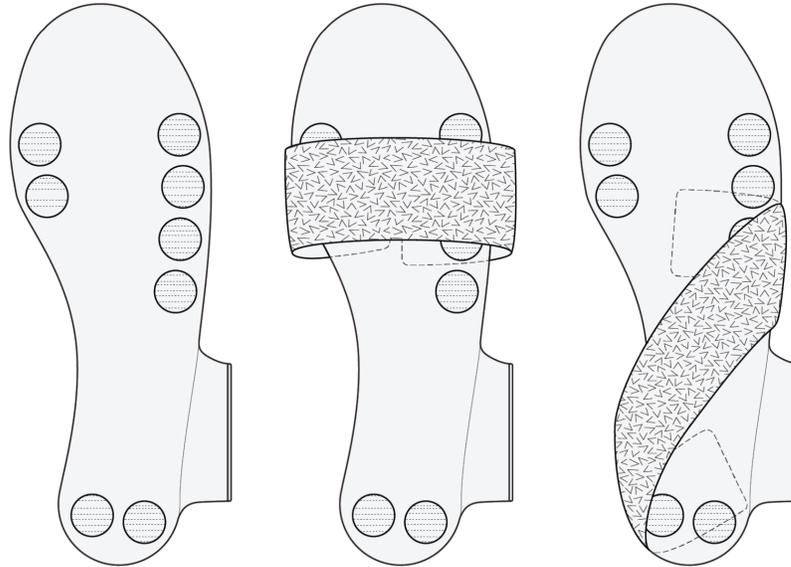

Figure 15. Positioning for Velcro hook tabs and 2" footplate straps (LARGE)
- Attach the adhesive hook fastener dots (provided with the device) to the bottom side of the footplate as seen in Figures 15 and 16.
**NOTE:** Useful wrapping techniques are shown in Figures 15 and 16.